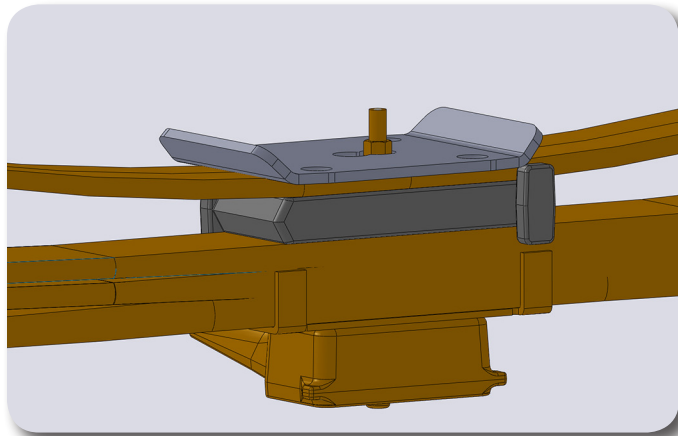

Figure 22
8. Models equipped with overload leafs will need the separation block modified. Trim the rotation tabs from the front side of block on both the inside and outside of the block. Use extreme care near the fuel tank, do not use any method that will create sparks if the block is not removed when modified. A sawzall is highly recommended. **Figure 22**